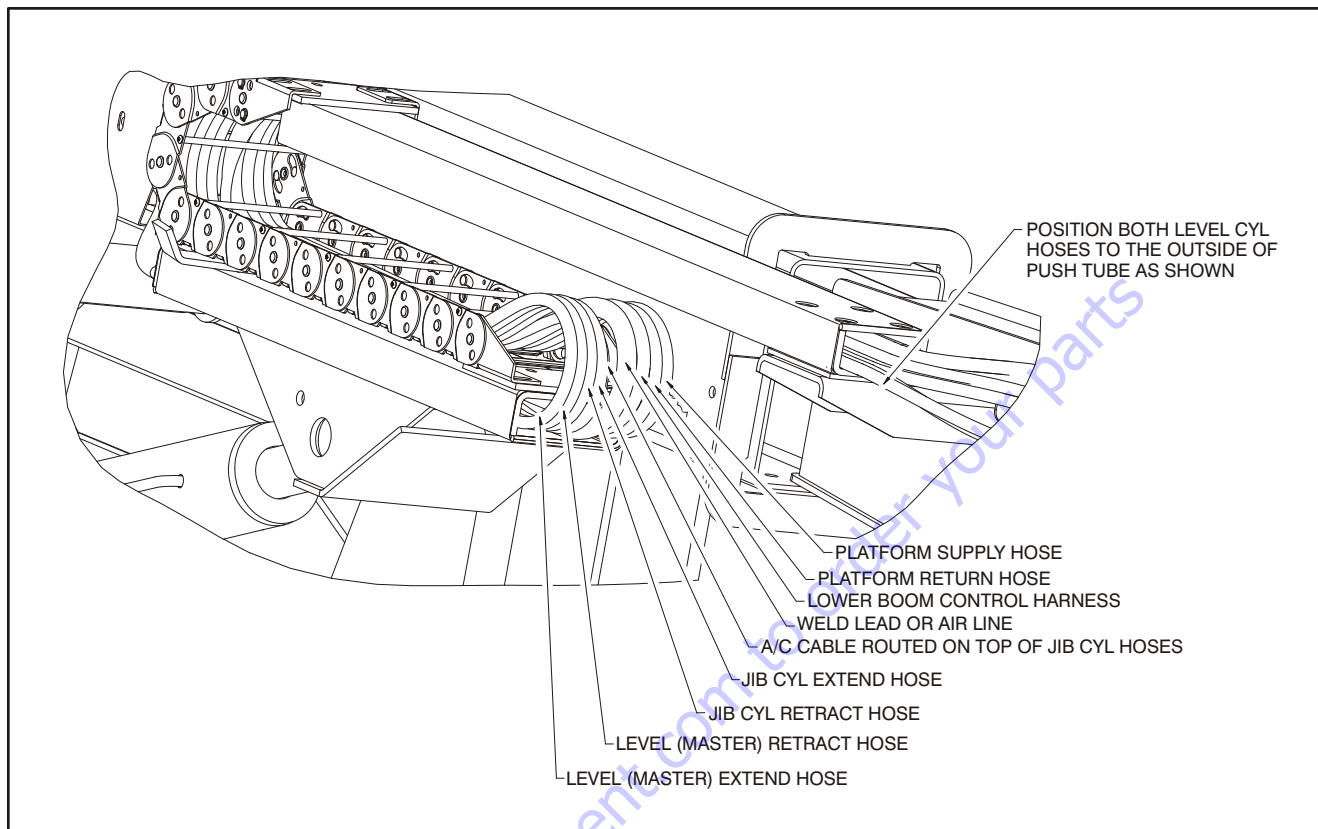

Figure 4-3. Power Track Hoses
7. Install the power track and hoses/lines onto the boom support brackets and secure in place with the retaining hardware. Refer to Figure 4-3., Power Track Hoses.